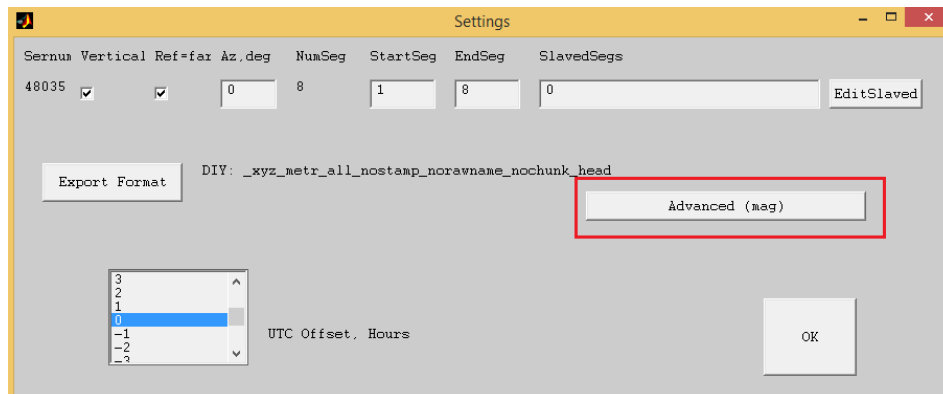

Figure 5.24: The ‘Settings’ window with the ‘Advanced (mag)’ button.
2. The “Settings” window, seen in **Figure 5.24**, shows the ‘Advanced (mag)’ button.